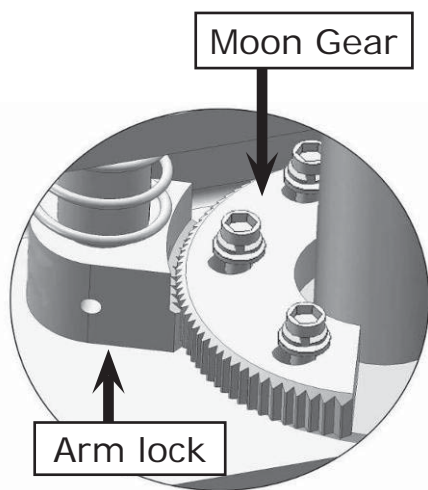

Fig. 33
3. Adjust the arm lock as direction of arrow (See Fig. 33)